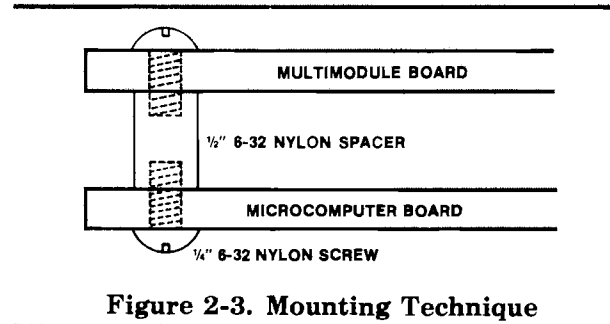

Figure 2-3. Mounting Technique
- With a nylon ¼ inch x 6/32 screw, secure the ½ inch spacer to the host iSBC microcomputer as shown in figure 2-3.